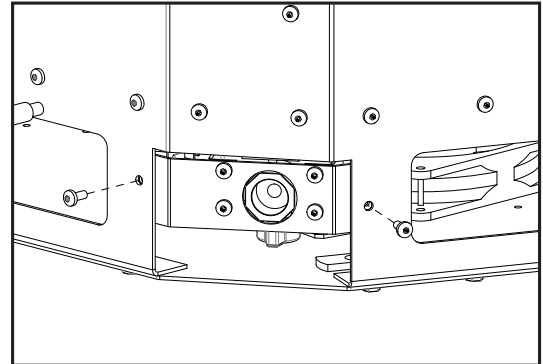
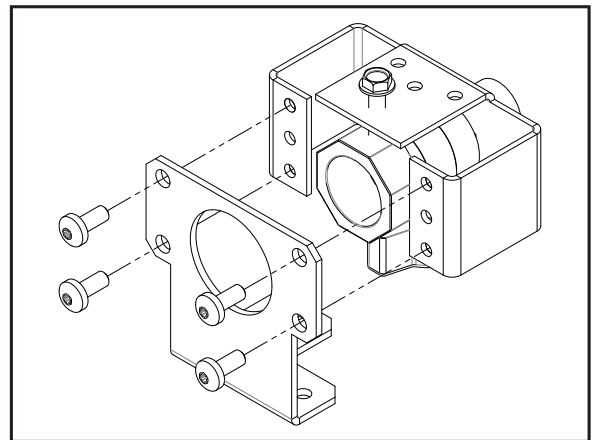

Figure 85: Gas Plate Disconnection
Figure 87: Gas Adapter Connection
1. Disconnect the two (2) T20 screws securing the ball valve plate (see Figure 85).
2. Disconnect the four (4) T20 screws securing the ball valve.
3. Loosen off ball valve jam screw and reattach ball valve cradle onto the relocation plate (included in the manual bag, refer to Figure 87 for proper geometry and orientation). Re-tighten jam screw and ensure ball valve is secure.